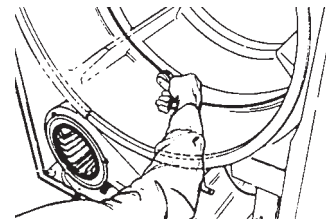

Fig. 4-22
3. Reach under drum and push idler pulley to the left to release tension on the belt. (Fig. 4-22) Remove belt from motor pulley.